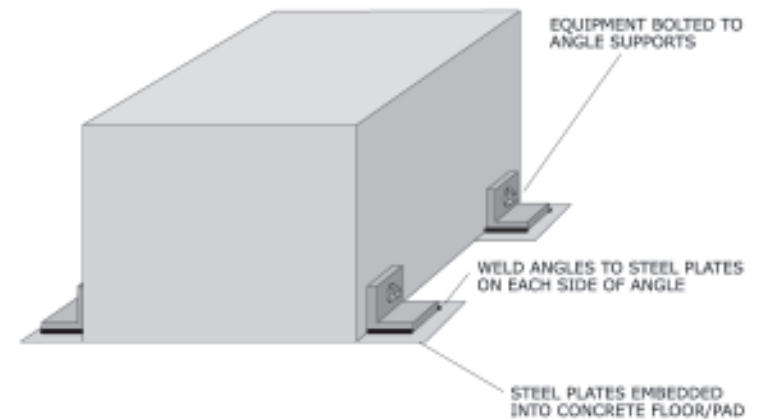

Figure 75: Four or more angles on each side of equipment welded to embedded plates. Figure 150 (page 119) gives examples of embedded steel plates.
- Four or more angles on each side of equipment welded to embedded plates: Figure 75 (page 39).